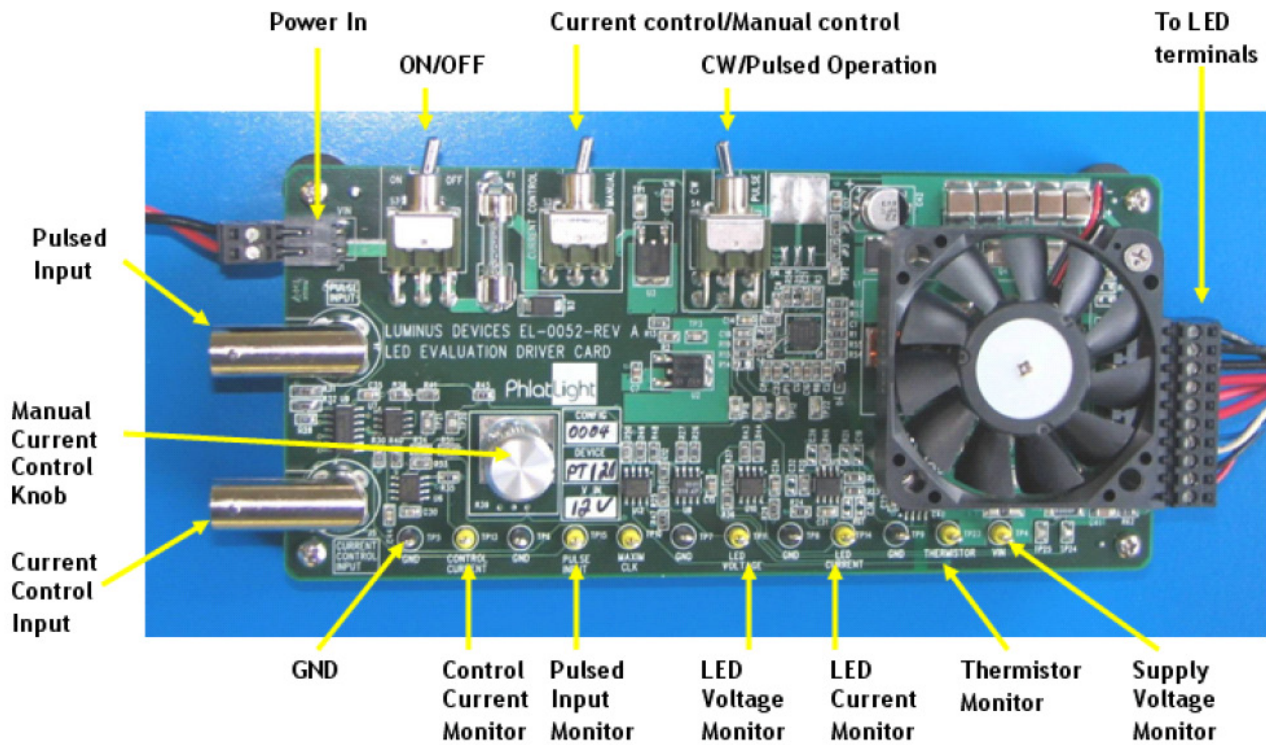

Figure 8: Driver board pin layout.
The driver board is designed for to source up to 36 A to any Big Chip LED™. Note that different LEDs have different drive current limitations and care must be taken not to exceed these limitations. Consult product data sheets for current and junction temperature limitations of specific LEDs. Figure 8 shows the top view of a driver board along with commonly used pins, switches and readouts.
1. Make sure power supply is OFF and the power switch (ON/ OFF switch in Figure 8) on the driver board is OFF.
5. Set middle switch (Current Control/Manual Control switch in Figure 8) to "Manual".
6. Set right switch (CW/Pulsed switch in Figure 8) to "CW" for continuous operation.